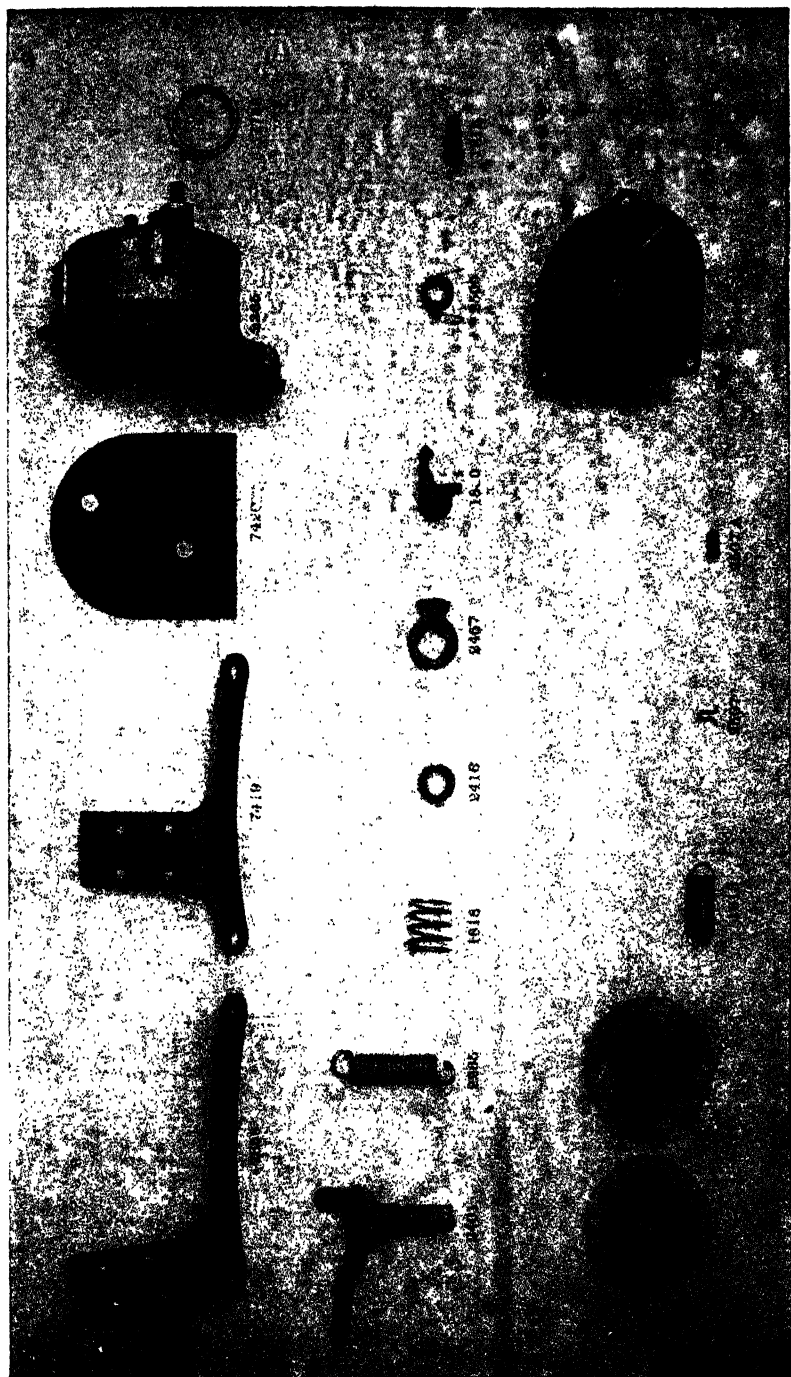
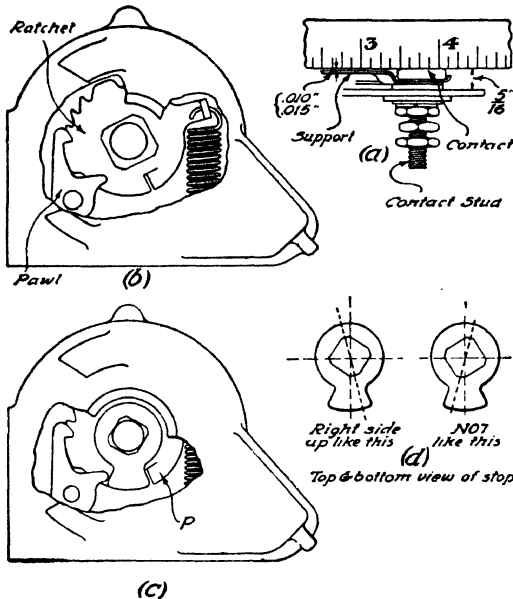

Fig. 306. View of Essential Parts of North East Starting Switch
Fig. 307. Assembly of Starting Switch
**Starting Switch.** When its operation indicates that the contactor blades have worn, the starting switch should be dismantled, and, if necessary, new blades should be inserted. To disassemble the switch, proceed as follows: (1) Remove the spring 2265, Fig. 306, on the switch case 2365; (2) remove the cotter pin from the collar 2416; (3) withdraw the shaft and lever 2401, together with the spring 1818; (4) remove the three screws which hold the cover 2404 in place,
The upper surfaces of the supports must be .010 to .015 inch lower than the contact surface of the block. Care should be taken that the upper surface of the contact blocks are  $\frac{5}{16}$  inch above the inner surface of the cover. A small steel straightedge laid upon the face of the contact block and extended over the supports, as shown in Fig. 307 (a), will serve as a means of checking these dimensions.
Before placing in service, the contact surfaces must be carefully cleaned and lubricated with a very small quantity of vaseline. To reassemble the switch: (1) Connect the spring 1813, Fig. 306, to the arm of the ratchet; (2) place the contactor member 2344 in the switch case in such a position that the ratchet will lie against the pawl 1830; and (3) hold the switch case in the left hand, lever side up, and insert the right forefinger through the hole in the switch case and introduce the pawl into the first notch of the ratchet, Fig. 307 (b); (4) hold these parts carefully in position and replace the cover 2404, Fig. 306, fastening it to the switch case by means of the three screws; (5) insert the stop through the hole in the switch case and replace it upon the ratchet plate in such a position that the elongated portion of the stop will lie between the raised projection which is found on the ratchet plate and the end of the short lever on the pawl as shown in Fig. 307 (c). It is very important that the stop be placed in the switch right side up, Fig. 307 (d) illustrating the proper method of doing this. (6) Place the spring on the shaft and replace the shaft in the switch, taking care while entering the shaft not to disturb the arrangement of any of the switch parts; (7) replace the collar and the cotter pin; and (8) connect the spring 2265 with the lug on the switch case. A drop of light oil should be applied to the bearing point at each end of the switch shaft 2401.